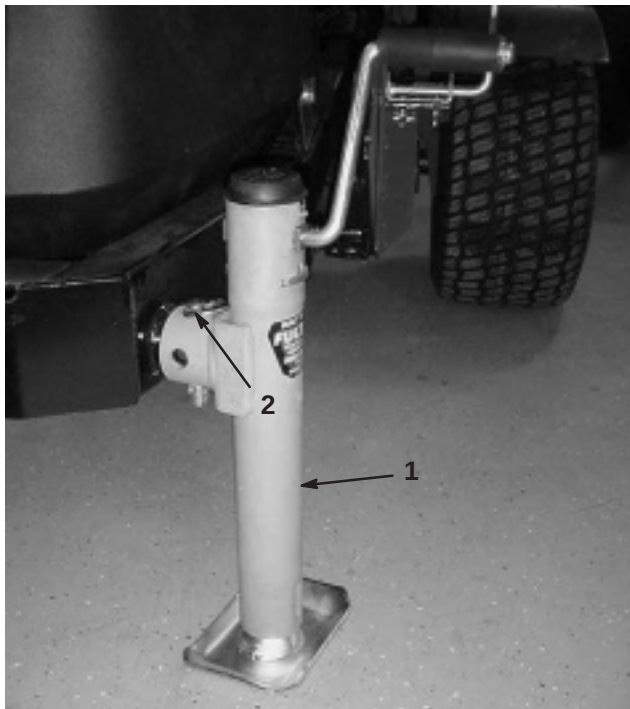

Figure 5
2. Insert jack onto frame pin and secure with pin (Fig. 5).